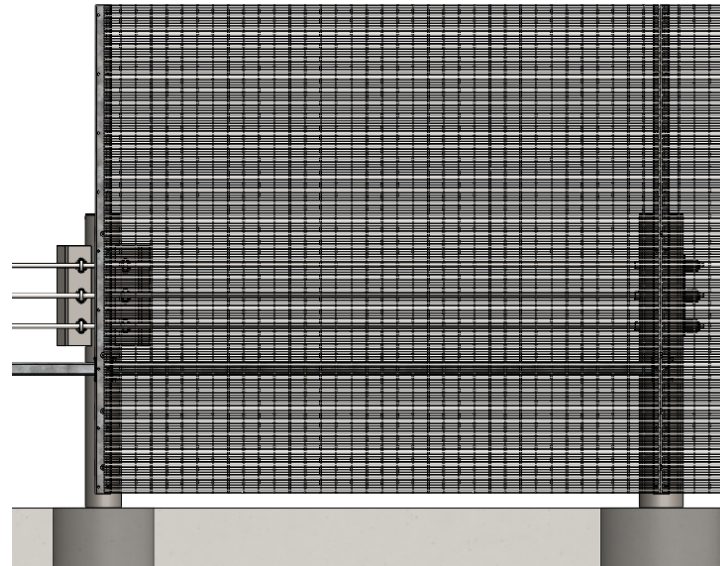

Figure 16
1. Start by placing panels left & right of each fence posts. (Fig. 16)